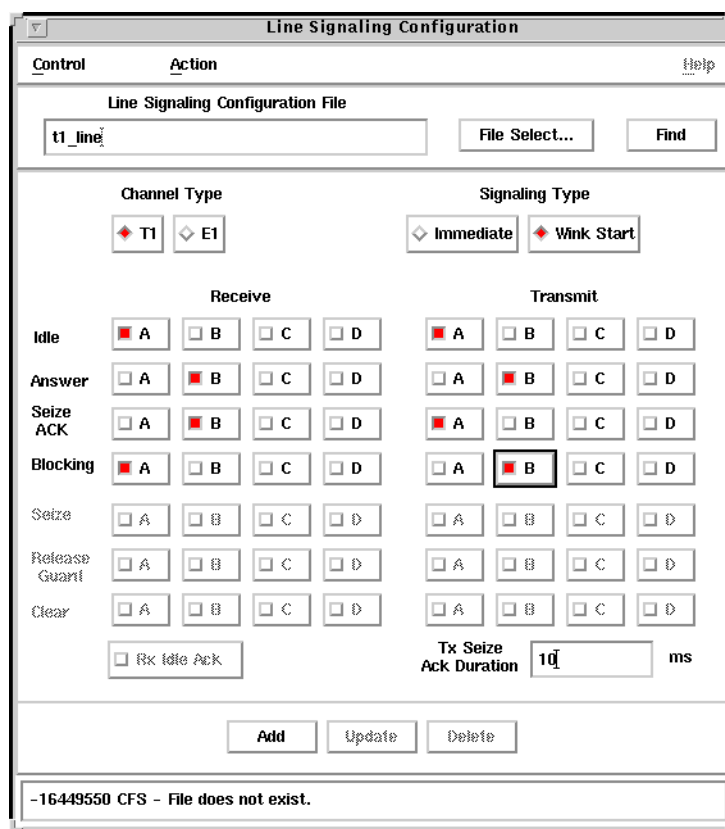

Figure 10: Creating a T1 Signaling Configuration File
2. The Line Signaling Configuration window appears (see Figure 10).
The Line Signaling Configuration window appears (see Figure 10).
The CLI Translation window appears (see Figure 10).